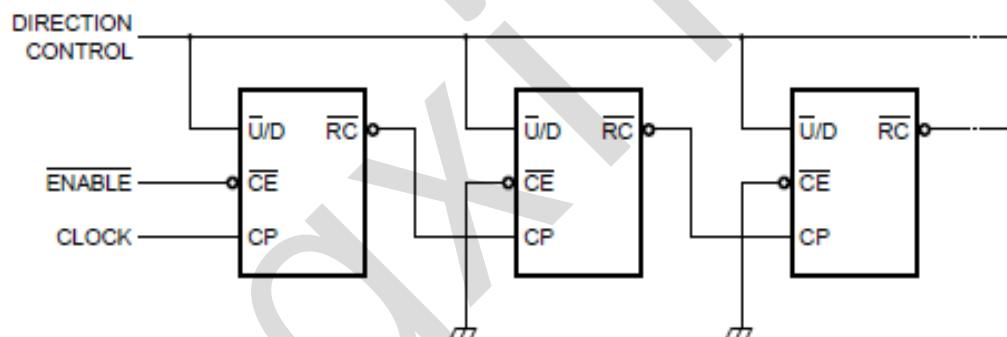
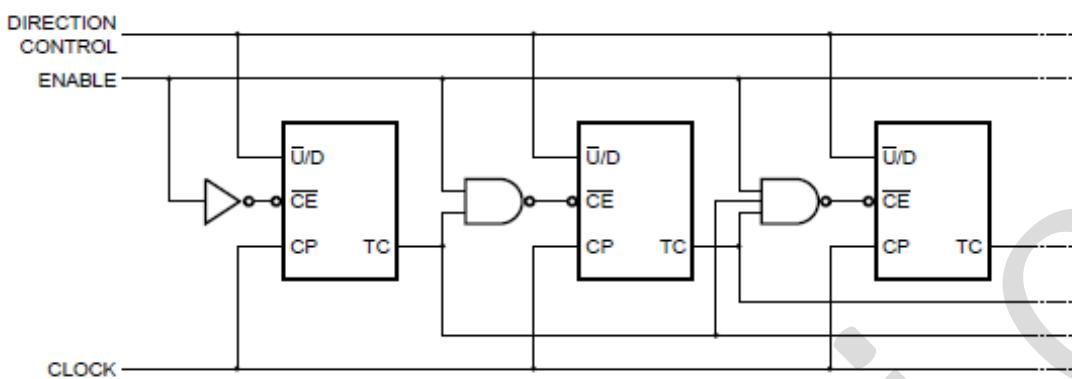

Figure 5. N-stage ripple counter using ripple clock
Figure 7. Synchronous n-stage counter with parallel gated carry/borrow
Counting is inhibited by a HIGH level on the count enable (\bar{CE}) input. When \bar{CE} is LOW internal state changes are initiated synchronously by the LOW-to-HIGH transition of the clock input. The up/down (\bar{U}/\bar{D}) input signal determines the direction of counting as indicated in the function table. The \bar{CE} input may go LOW when the clock is in either state, however, the LOW-to-HIGH \bar{CE} transition must occur only when the clock is HIGH. Also, the \bar{U}/\bar{D} input should be changed only when either \bar{CE} or CP is HIGH. Overflow/underflow indications are provided by two types of outputs, the terminal count (TC) and ripple clock (\bar{RC}). The TC output is normally LOW and goes HIGH when a circuit reaches zero in the count-down mode or reaches "9" in the count-up-mode. The TC output will remain HIGH until a state change occurs, either by counting or presetting, or until \bar{U}/\bar{D} is changed. Do not use the TC output as a clock signal because it is subject to decoding spikes. The TC signal is used internally to enable the \bar{RC} output. When TC is HIGH and \bar{CE} is LOW, the \bar{RC} output follows the clock pulse (CP). This feature simplifies the design of multistage counters as shown in Figure 5 and 6.
In Figure 5, each \bar{RC} output is used as the clock input to the next higher stage. It is only necessary to inhibit the first stage to prevent counting in all stages, since a HIGH on \bar{CE} inhibits the \bar{RC} output pulse as indicated in the function table. The timing skew between state changes in the first and last stages is represented by the cumulative delay of the clock as it ripples through the preceding stages. This can be a disadvantage of this configuration in some applications.
In Figure 7, the configuration shown avoids ripple delays and their associated restrictions. Combining the TC signals from all the preceding stages forms the \bar{CE} input for a given stage. An enable must be included in each carry gate in order to inhibit counting. The TC output of a given stage is not affected by its own \bar{CE} signal therefore the simple inhibit scheme of Figure 5 and 6 does not apply.